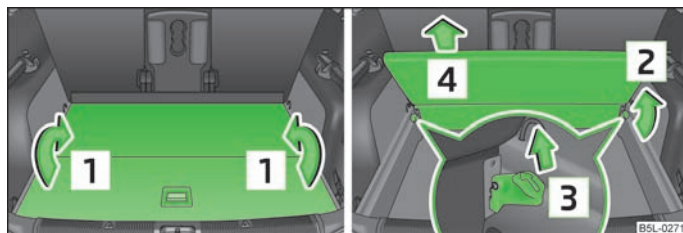

Fig. 60 Luggage compartment: Fold up variable loading floor/remove
- Fold up the loading floor by moving it in the direction of the arrow **[1]** » Fig. 60.